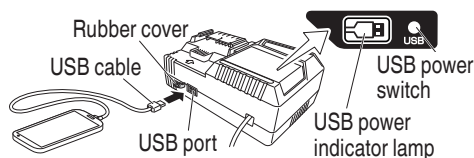

Fig. 9
- (2) Turn the USB power switch ON (Fig. 9)
- (3) Connect the USB cable. (Fig. 9)
- Turn the USB power switch OFF and unplug the power cord from the electrical outlet. (Fig. 9)